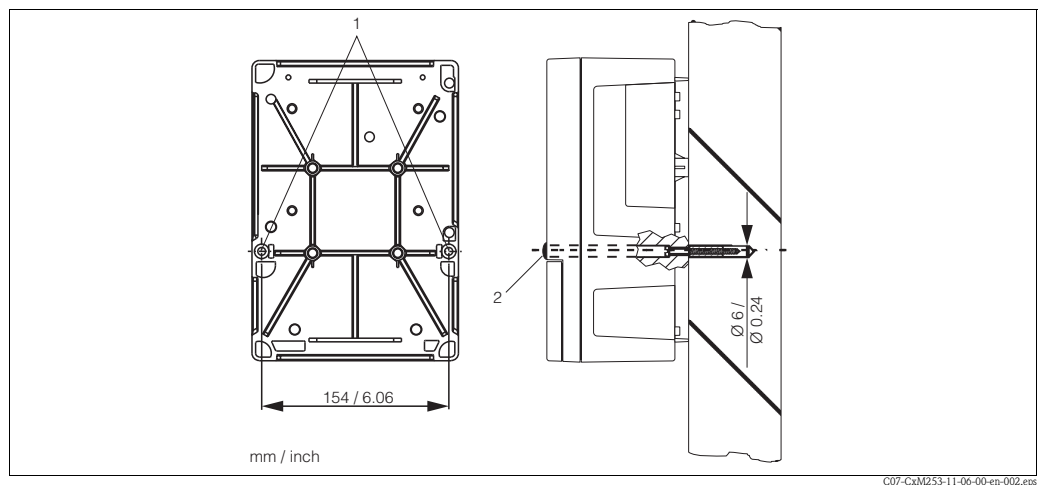

Fig. 7: Field instrument wall mounting
1. Create the bores as shown in Abb. 7 .
2. Drive the two fixing screws through the securing bores (1) from the front.
4. Cover the bores with plastic caps (2).